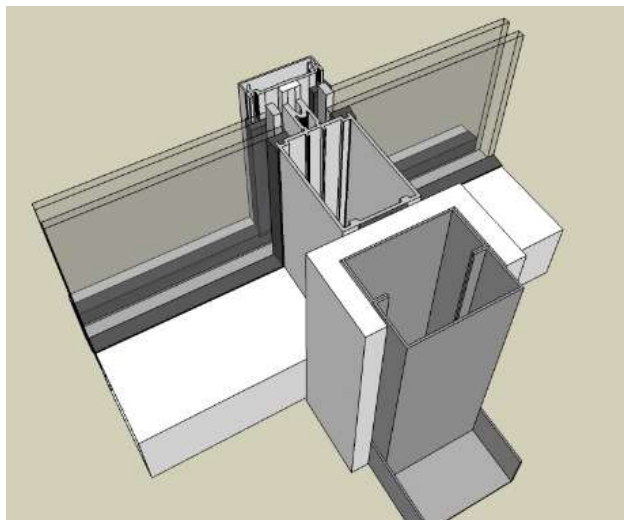

Figure 3: Alternate: Install finished portion of partition
- a. As an alternative method, set prefabricated portion of partition (Fig. 3). Include double studs for additional restraint of mullion deflection (hi-rise applications).